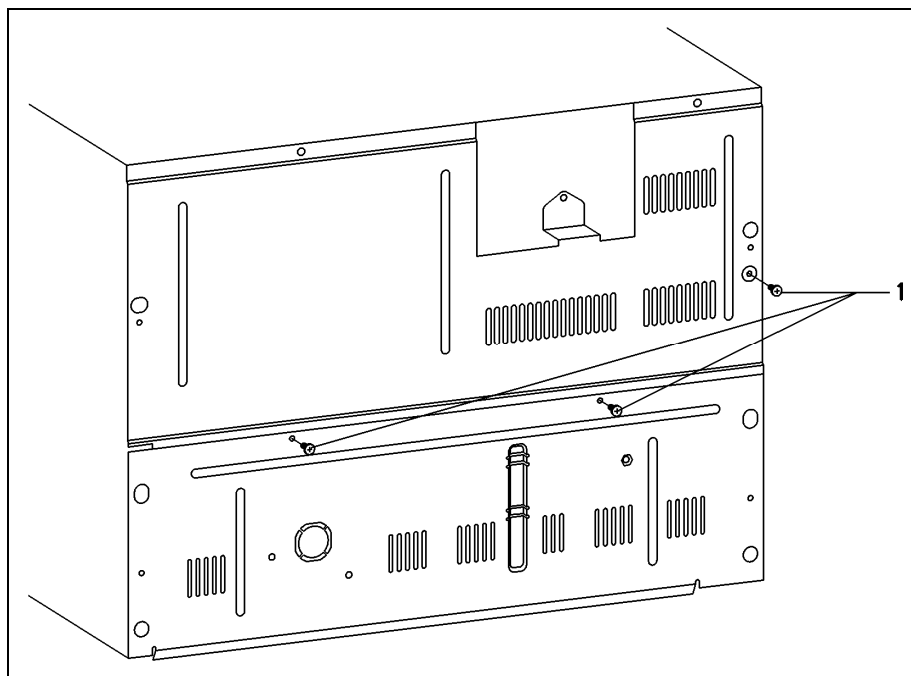

Figure 5-10: Service Door Removal
5. Remove the screws that hold the door hinge to the front door cover (see Figure 5-10, Item 2) and remove the door from the appliance.
3. Remove the screws securing the service door (Figure 5-10, Item 1).